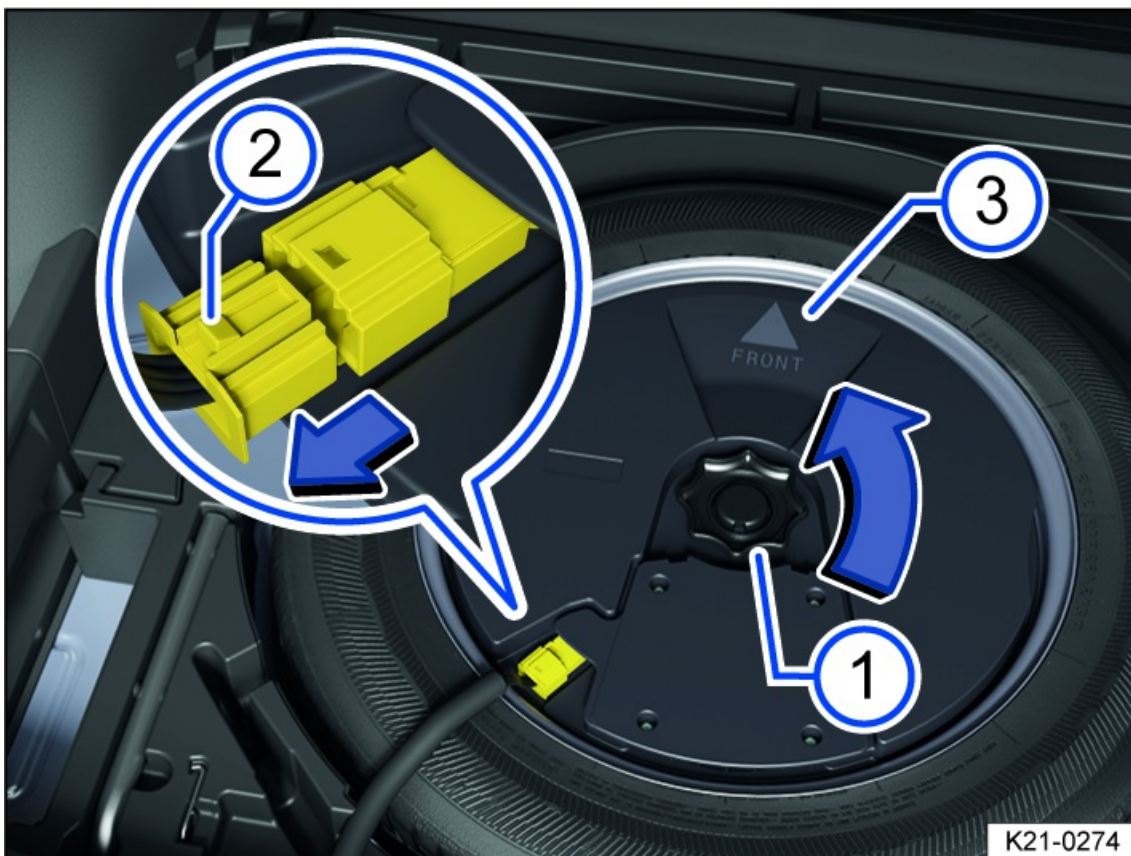

Fig. 221 Under the luggage compartment floor: removing the subwoofer (variant 2).
3. Unscrew the handwheel *fig. 221* in the direction of the arrow.
4. To release the connector, press the locking mechanism on the end of the connector *fig. 221*.
1. Place the subwoofer carefully in the rim well. The point of the “FRONT” *fig. 221* arrow symbol on the subwoofer must face forward
2. Connect the connector until the lock *fig. 221* latches into place.
3. Turn the handwheel *fig. 221* on the threaded pin in the opposite direction to the arrow until the subwoofer is securely fastened.